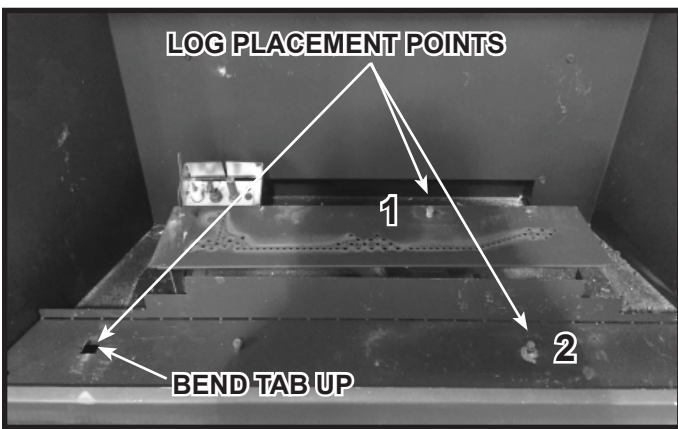
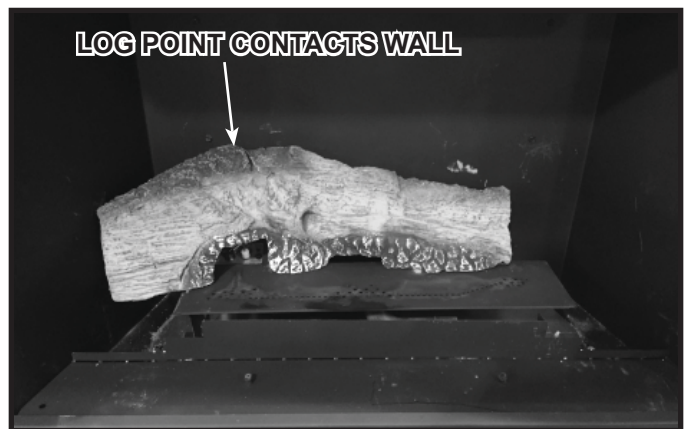
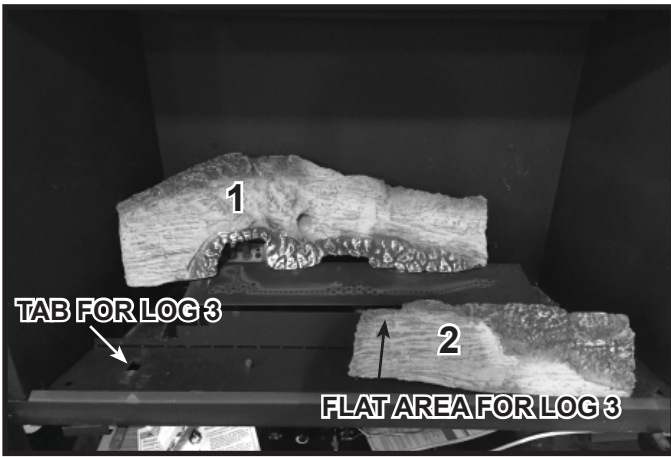
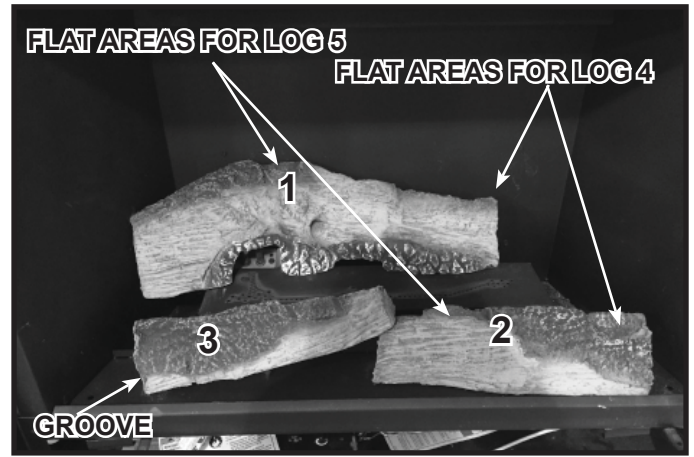

Figure 3.
Figure 4.
Figure 5.
Figure 6.
Figure 3 shows the points used for correct log placement. Bend the tab on the basepan upward to a 90 degree angle as shown. The two shoulder screws will be used in placement of Log 1 and Log 3.
**Log #1 SRV2401-701:** Locate the hole on the bottom right side of Log 1 and the shoulder screw marked “1” in Figure 3. Place the hole onto the shoulder screw as shown in Figure 4. Push the left side of Log 1 back until it contacts the back wall of the firebox.
**Log #2 (SRV2401-702):** Locate the hole on the bottom side of Log 2 and the shoulder screw marked “2” in Figure 3. Place the hole onto the shoulder screw as shown in Figure 5. Push the left side of Log 2 back until it contacts the back of the basepan.
**Log #3 (SRV2401-703):** Locate the groove on the left side of Log 3. Place the log on the tab that was bent up in Step 1 and set the right side of the log on top of the flat area on Log 2. Refer to Figure 5 for tab and flat area. Figure 6 shows Log 3 placed correctly.
**Log #6 (SRV2397-705):** Locate the flat areas on Log 1 and Log 2, highlighted in Figure 6. Place log 6 onto the flat area of Log 2 with the bark facing the front of the appliance. Rest the back of Log 6 onto the flat spot on the far right of Log 1. Log 6 will rest against the back of the appliance.